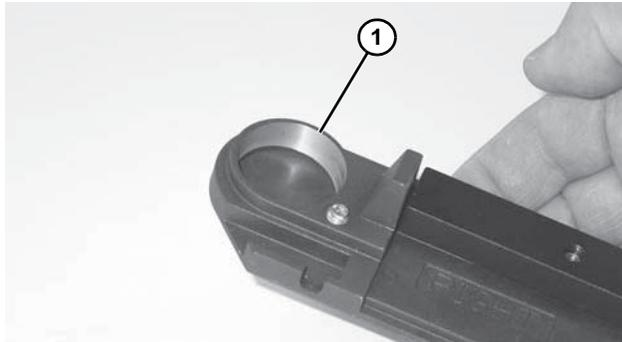

Figure 125
1. Inspect the head plates bearing seating surface (**Figure 125, item 1**). If they are worn or damaged, replace. See “Service Parts” on page 60.